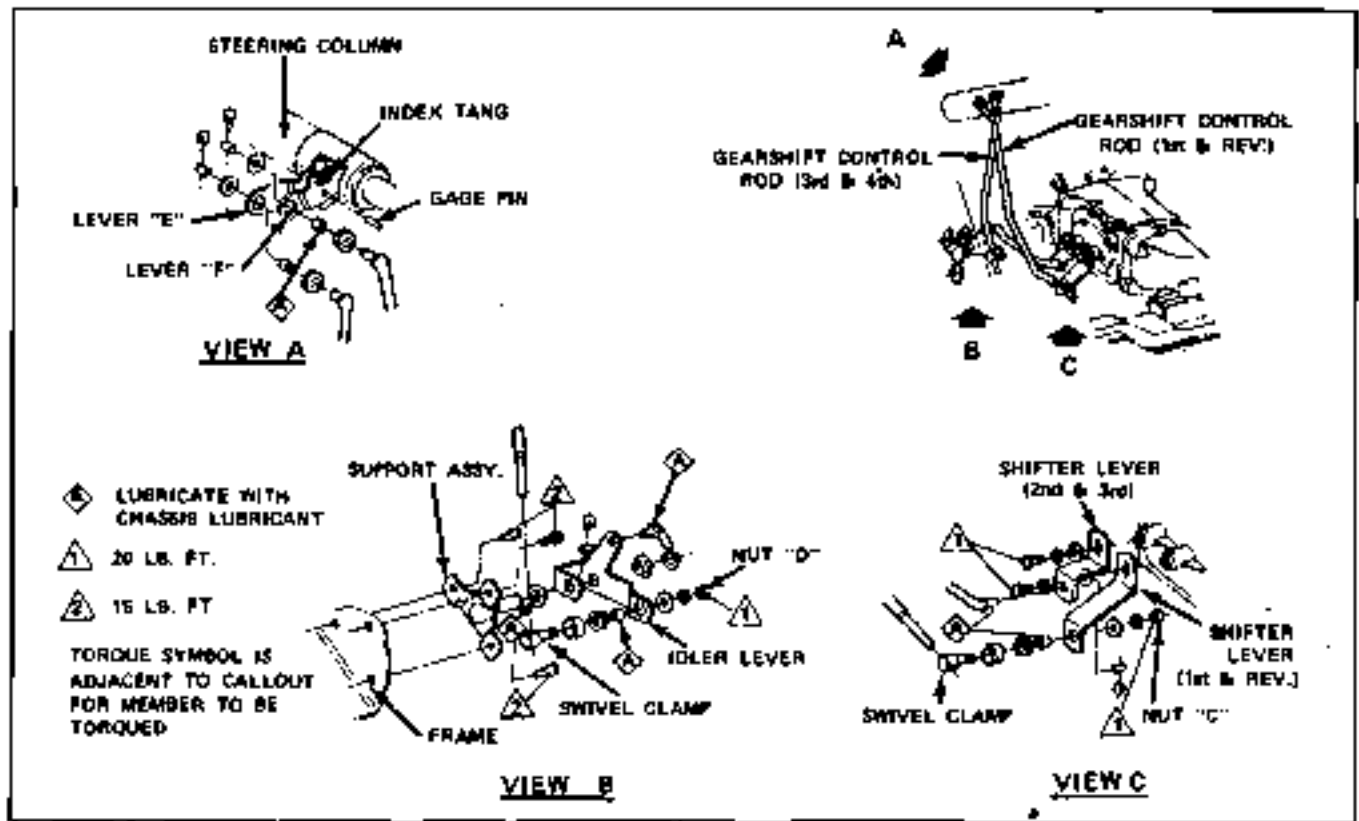

Fig. 7B-2 Firebird Column Shift Controls
COLUMN SHIFT AND BACK DRIVE LINKAGE (Fig. 7B-1 or 7B-2).
6. Place Collar J 6403-2 onto Tool J 6403-1 (Fig. 7B-6).